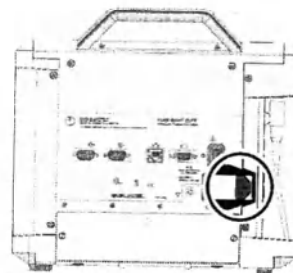

Figure 7: AC Connection
1. Connect the female end of the cord to the power receptacle on the rear of the Oximeter (Figure 7).